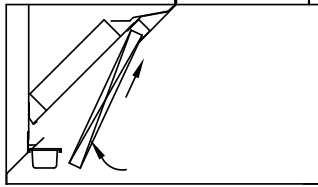

Fig. 25
5. Install the Grease-X-Tractor™ primary filters in the same manner using the front filter channel; Fig. 25.